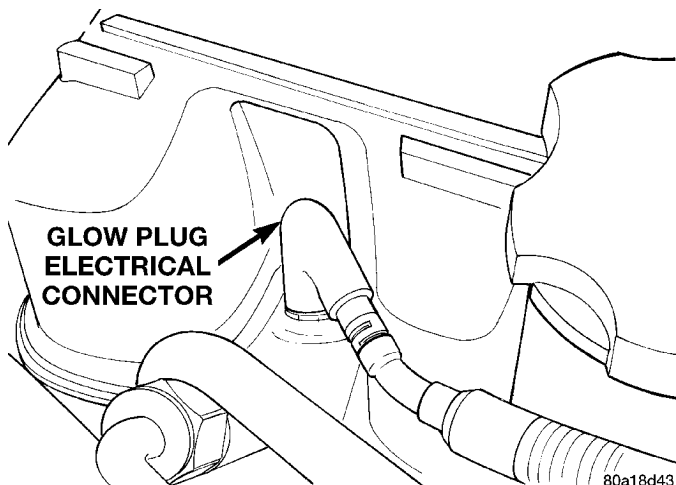

Fig. 14 Glow Plug Connector
(6) Be sure the electrical connectors at the ends of the glow plugs (Fig. 14) are tight and free of corrosion.